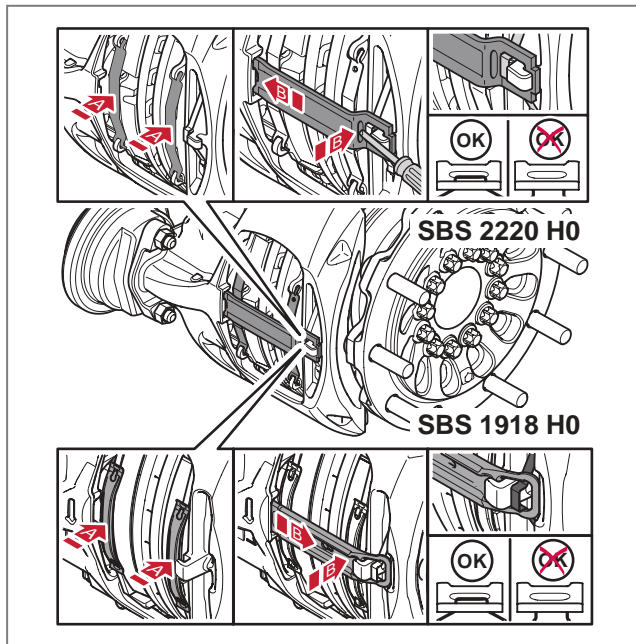

Fig. 41 - Install the brake pad components
6. Fit the new pad springs (A) and the pad retainer (B). The pad retainer is secured by first locating it in the housing end in the brake caliper aperture. The pad springs are then compressed and the rectangular aperture of the pad retainer is placed over the brake caliper seal. The pad retainer is then slid under the brake caliper seal until the spring bracket engages in its locking position, see ► Fig. 41. If necessary, use a tool to help push the brake pad retainer into position.